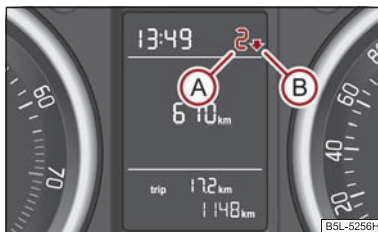

Fig. 17 Recommendation for changing gears
An information for the engaged gear (A) ⇒ fig. 17 is shown in the display of the instrument cluster.